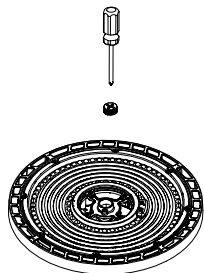

Figure 10
1. Prepare the Receptacle: Remove the ½" knockout using a screwdriver. (See Figure 10)